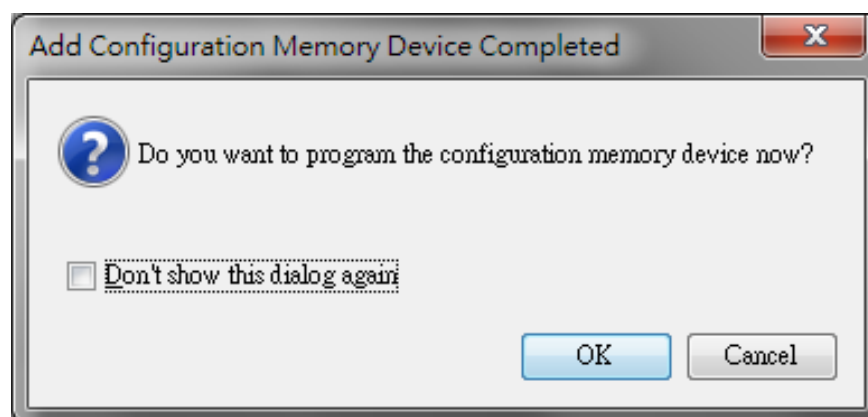

Figure 12. Confirm “Add Configuration Device Completed”
- ❖ Click “OK” to confirm “Add Configuration Memory Device Completed” as Figure 12.